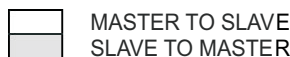

Figure 34. SMBus Write-Word and Read-Word Protocols
The bq24745 receives commands from the SMBus interface. The bq24745 uses a simplified subset of the commands documented in the *System Management Bus Specification V1.1*, which can be downloaded from www.smbus.org. The bq24745 uses the SMBus Read-Word and Write-Word protocols (see Figure 34) to communicate with the smart battery. The bq24745 performs only as an SMBus slave device with address 0b0001001_ (0x12), and does not initiate communication on the bus. In addition, the bq24745 has two identification (ID) registers (0xFE): a 16-bit device ID register and a 16-bit manufacturer ID register (0xFF).
To program the output charge voltage regulation setpoint, use the SMBus to write a 16-bit ChargeVoltage() command using the data format listed in Table 3. The ChargeVoltage() command uses the Write-Word protocol (see Figure 34). The command code for ChargeVoltage() is 0x15 (0b00010101). The bq24745 provides a charge-voltage range of 1.024 V to 19.200 V, with 16 mV resolution. Set ChargeVoltage() below 1.024 V to terminate charging. Upon reset, the ChargeVoltage() and ChargeCurrent() values are cleared and the charger remains off until both the ChargeVoltage() and the ChargeCurrent() command are sent. Both UGATE and LGATE pins remain low until the charger is restarted.
To set the charge current, use the SMBus to write a 16bit ChargeCurrent() command using the data format listed in Table 4. The ChargeCurrent() command uses the Write-Word protocol (see Figure 34). The command code for ChargeCurrent() is 0x14 (0b00010100). When using a 10-mΩ sense resistor, the bq24745 provides a charge-current range of 128 mA to 8.064 A, with 128 mA resolution. Set ChargeCurrent() to 0 to terminate charging. Upon reset, the ChargeVoltage() and ChargeCurrent() values are cleared and the charger remains off until both the ChargeVoltage() and the ChargeCurrent() commands are received. Both UGATE and LGATE pins remain low until the charger is restarted.
To set the input current limit, write a 16-bit InputCurrent() command using the data format listed in Table 5. The InputCurrent() command uses the Write-Word protocol (see Figure 34). The command code for InputCurrent() is 0x3F (0b00111111). When using a 10-mΩ sense resistor, the bq24745 provides an input-current limit range of 256 mA to 11.004 A, with 256 mA resolution. InputCurrent() settings from 1 mA to 256 mA result in a current limit of 256 mA. Upon reset the input current limit is 256 mA.